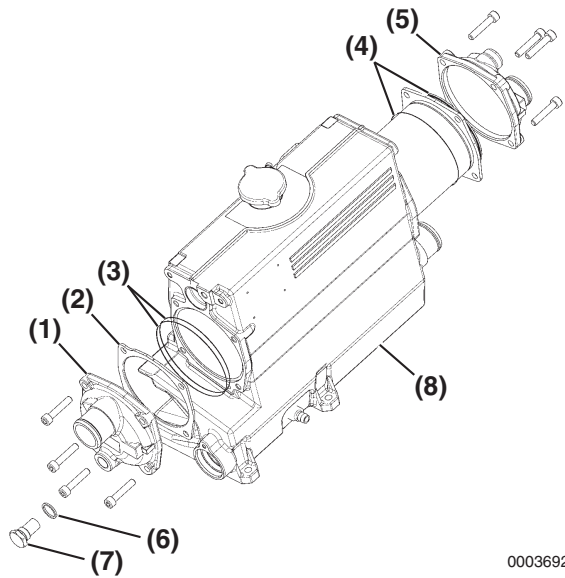

Figure 7-16
2. Remove outlet cover (**Figure 7-16, (1)**) and spacer (**Figure 7-16, (2)**).
3. Remove inlet cover (**Figure 7-16, (5)**).
5. Remove O-rings (**Figure 7-16, (3, 4)**).
6. Remove zinc anode (**Figure 7-16, (7)**) and copper gasket (**Figure 7-16, (6)**).
9. Install new O-rings (**Figure 7-16, (4)**) on cooler core.
10. Install cooler core and inlet cover (**Figure 7-16, (5)**).
11. Install one O-ring (**Figure 7-16, (3)**) between core and housing (**Figure 7-16, (8)**).
12. Install spacer (**Figure 7-16, (2)**), remaining O-ring (**Figure 7-16, (3)**), and outlet cover (**Figure 7-16, (1)**).
13. Install new zinc anode (**Figure 7-16, (7)**) and copper gasket (**Figure 7-16, (6)**). See *Check and Replace Zinc Anodes* on page 7-9.